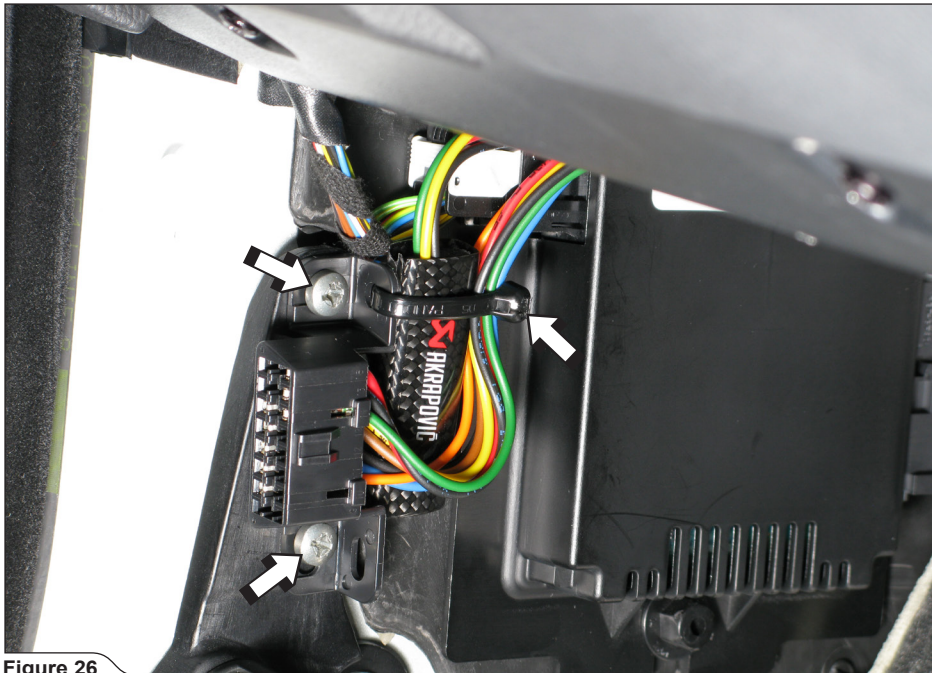

Figure 26
16. **For optional Akrapovič delete-R:** attach the Akrapovič OBD connector and fix the Akrapovič delete-R as shown, using the plastic tie wrap (Figure 26). Replace the plastic sill panel and engine hood handle in the reverse order from the order in which they were removed.